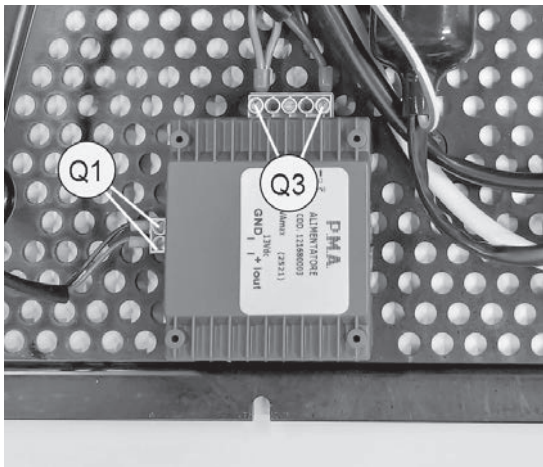

Fig. 39
- 2) Loosen the 2 low voltage connector screws (Q1) remove and place in their seat on the new transformer, securing with the 2 screws (Fig. 39).
- 4) Loosen the 2 low voltage connector screws (Q1) and remove them (Fig. 39).
- 9) Connect the 2 connectors in the low voltage supply outlet seat and secure with the 2 screws (Q1) (Fig. 39).